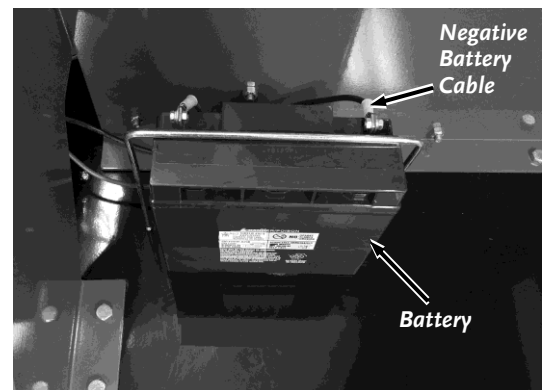

Figure 20
1. Connect the Negative Battery Cable onto the Negative Terminal Lug of the Battery with the existing Bolt, Washer and Nut using a 5/16" Wrench and a Phillips Head Screwdriver (**Figure 20**).